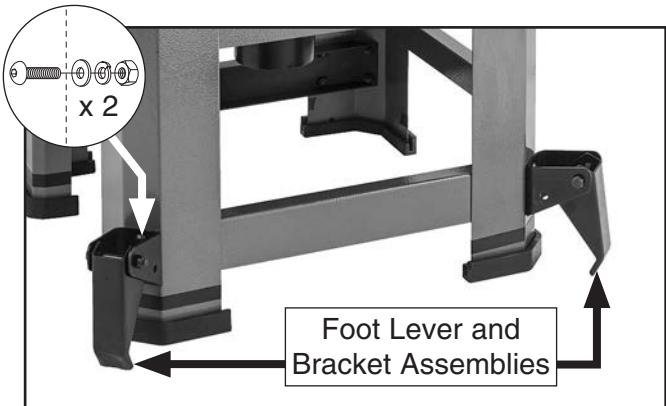

Figure 11. Lever assemblies installed.
1. Install (2) foot lever and bracket assemblies on right front and rear stand legs with pre-installed (2) M8-1.25 x 16 button head cap screws, 8mm flat washers, 8mm lock washers, and M8-1.25 hex nuts (see **Figure 11**).